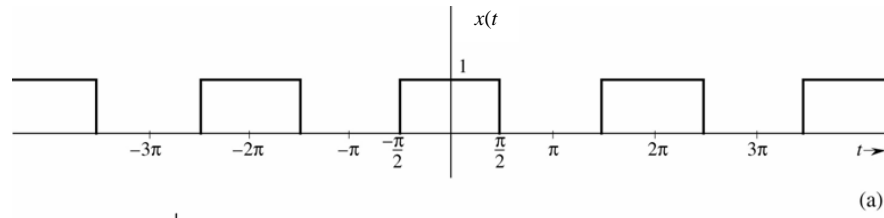

Figure 1.4 A square pulse periodic signal.
- a) Consider the periodic square waveform as shown in Figure 1.4. Show that the compact Fourier series coefficients are given by $C_n = \frac{\sin(n\pi/2)}{n\pi/2}$.